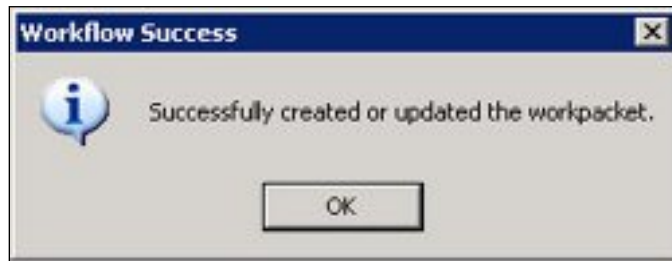

Figure 7-83: Workflow Success Message
- Click the OK button. The Workflow Success dialog box is displayed (Figure 7-83).